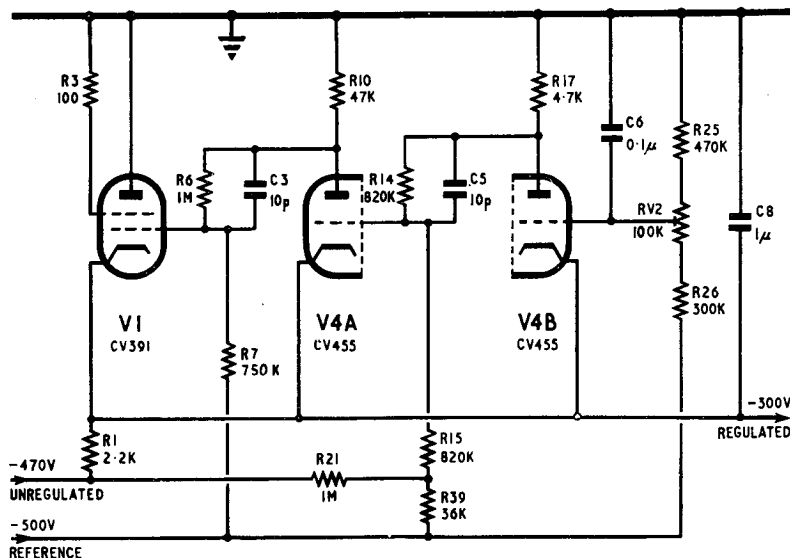

Fig. 4. Negative regulator
7. A simplified circuit of the negative regulator appears in fig. 4. The incoming negative power supply from the rack assembly Type 305 is nominally at $-470V$, but is in practice subject to fluctuations due to load changes or mains voltage variation. The function of the negative regulator is to provide from the $-470V$ input an accurately stabilized $-300V$ supply, both for use